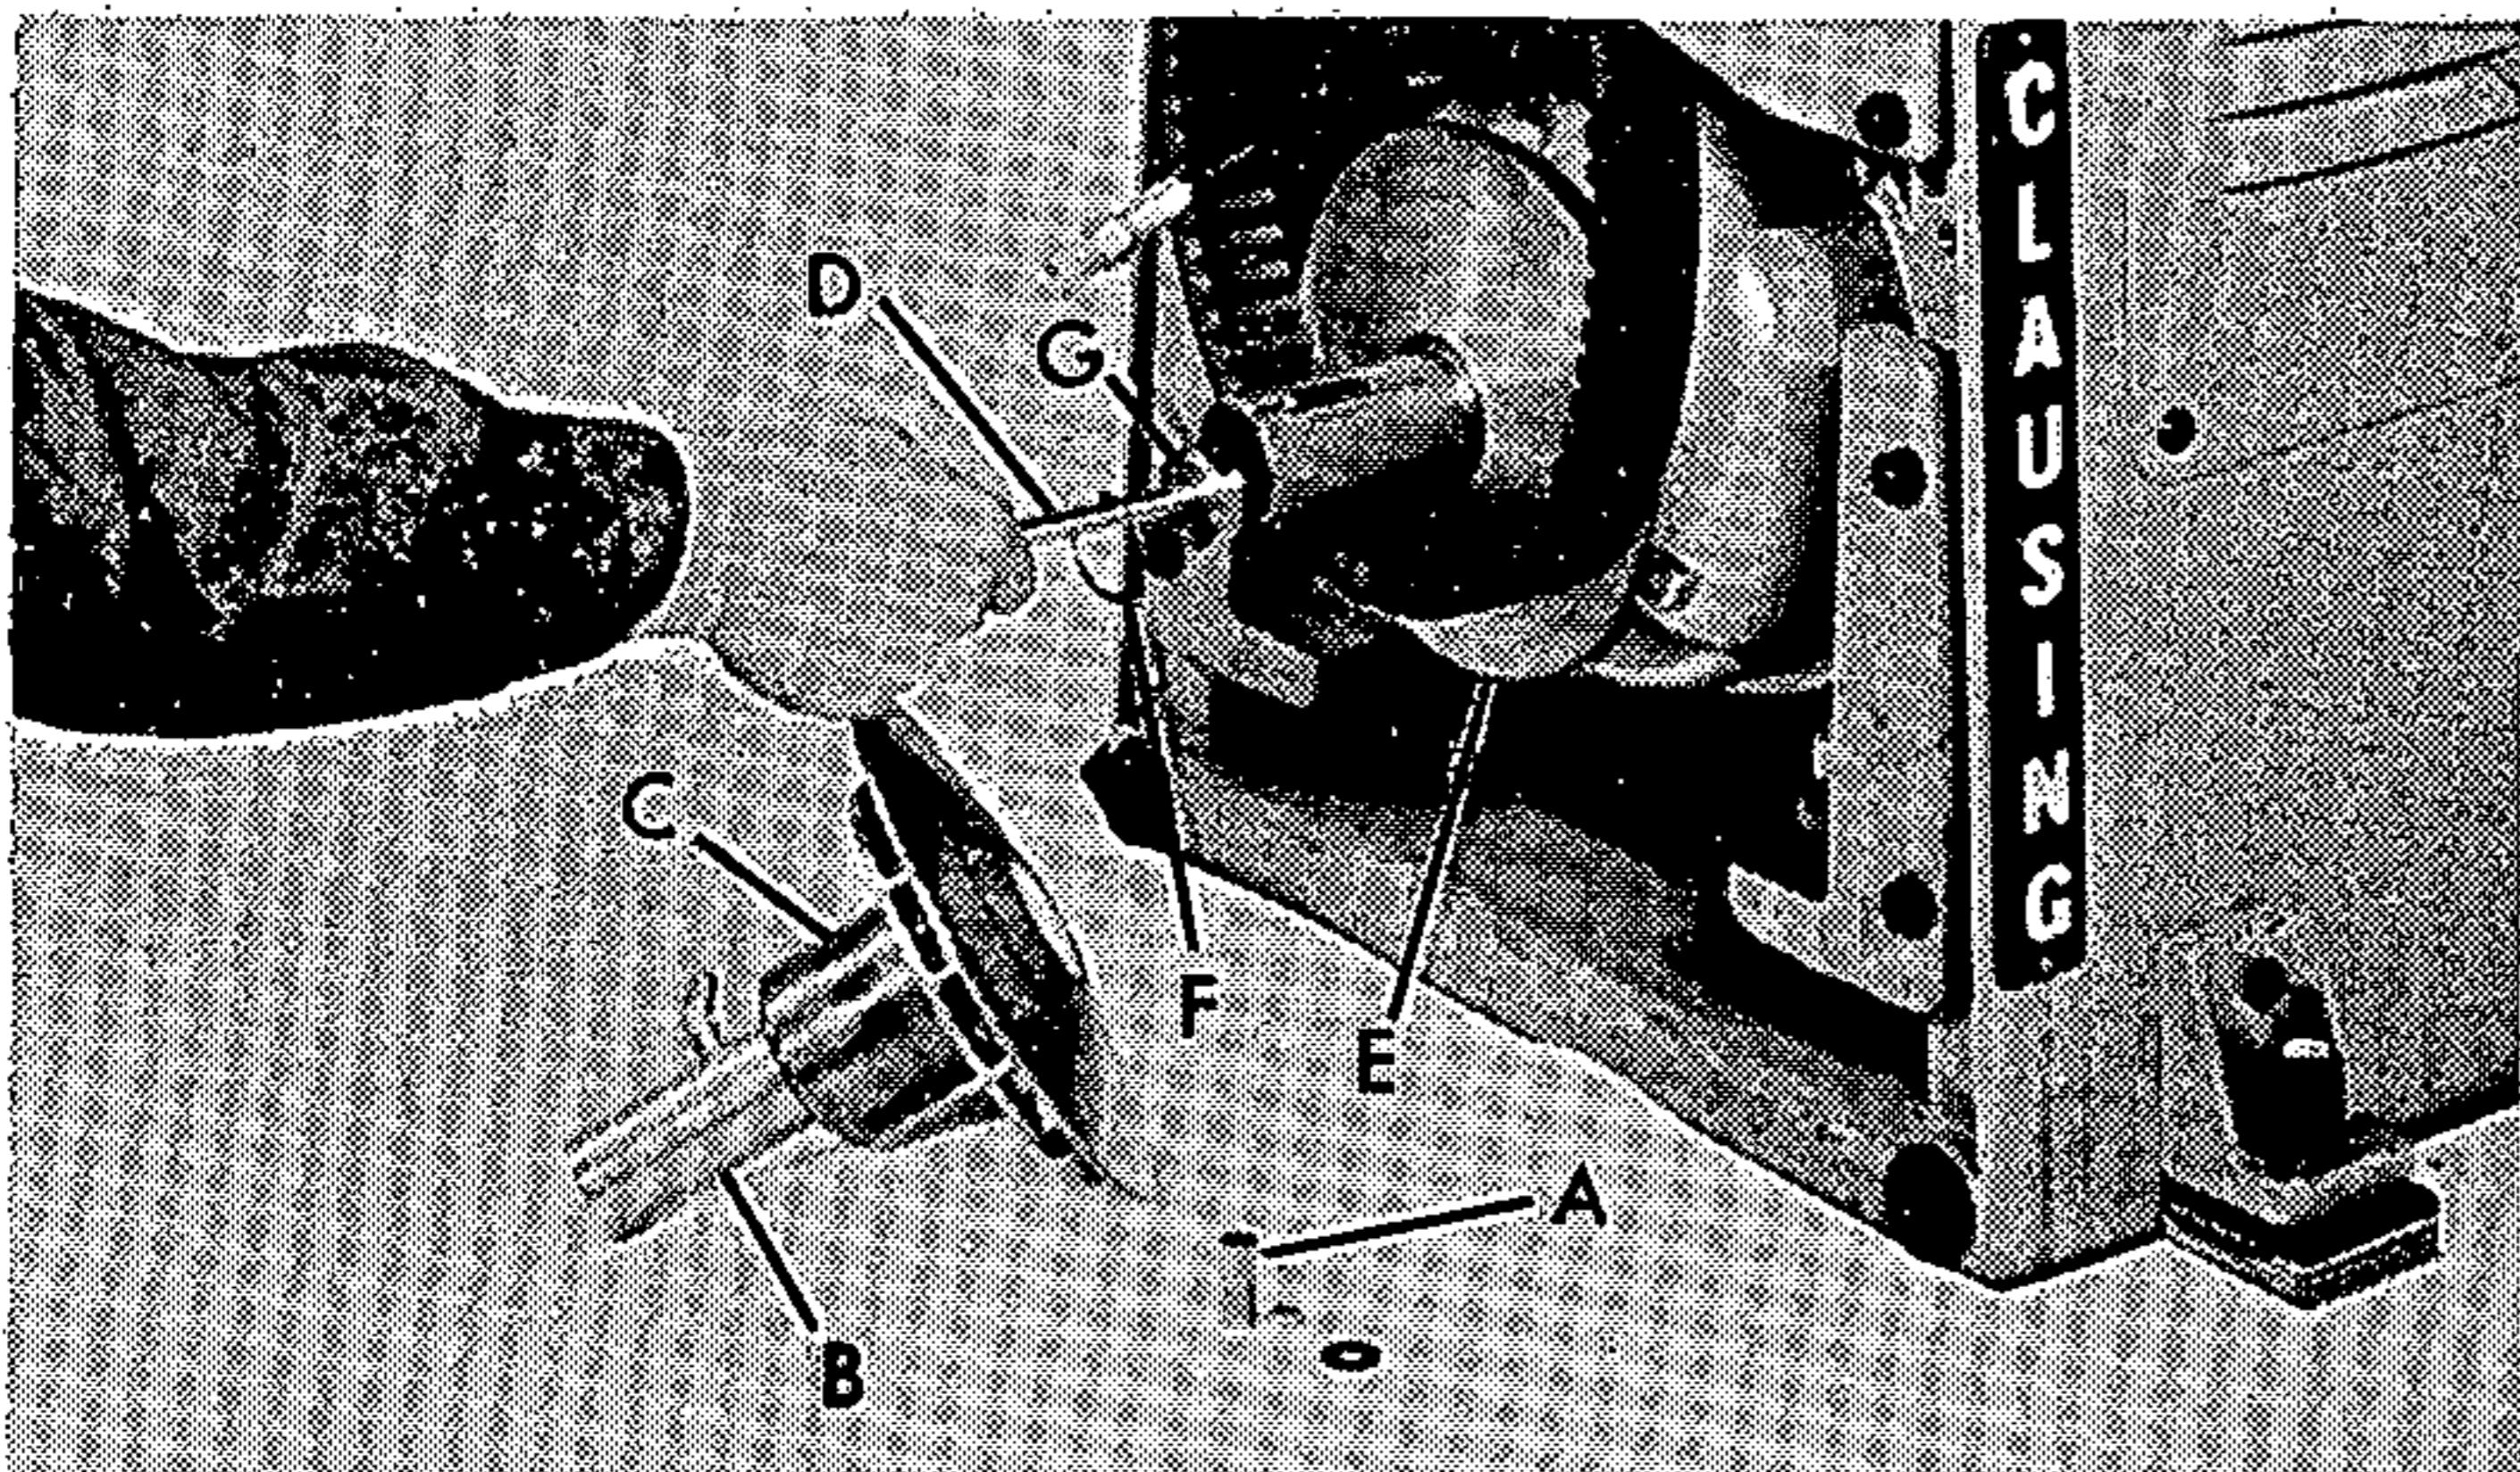
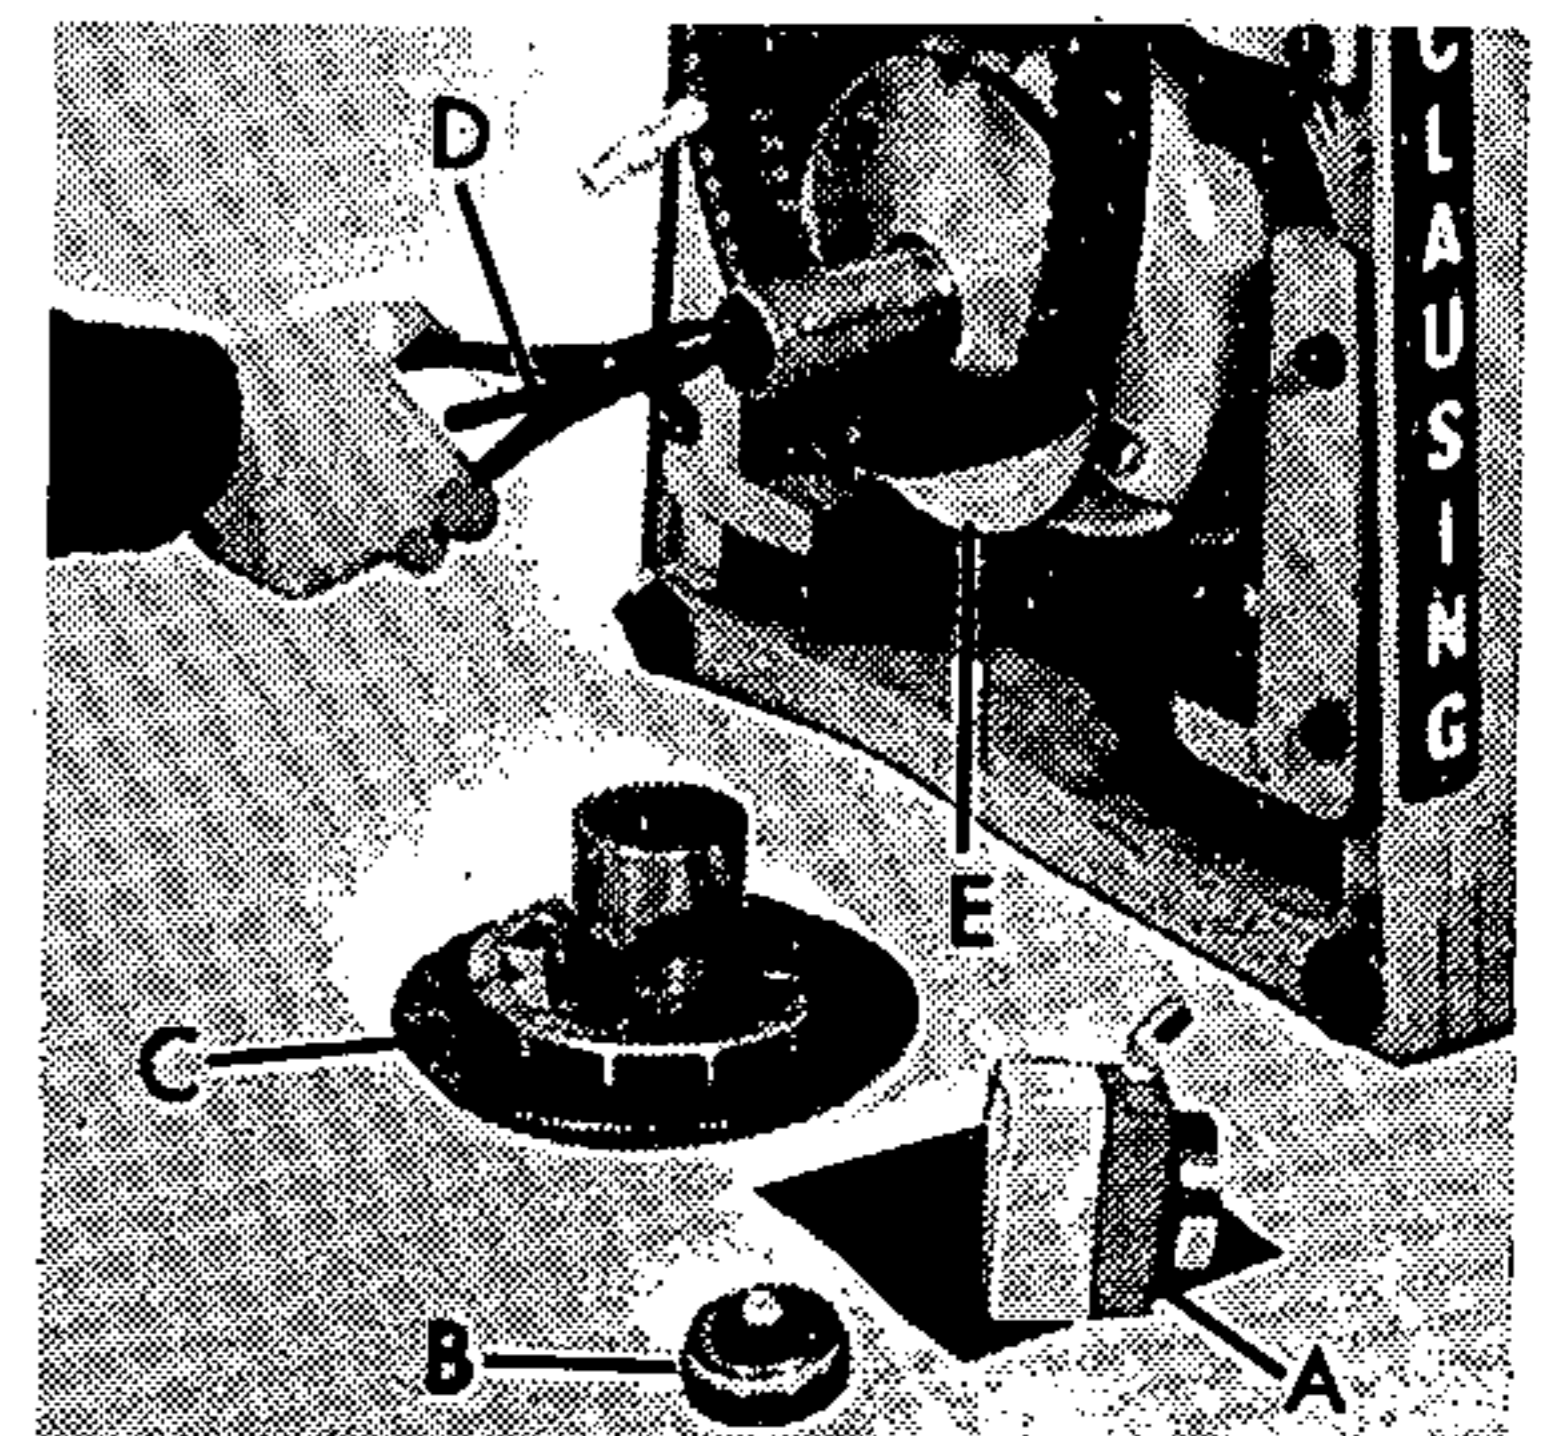

FIGURE 2
FIGURE 4
6. Remove sleeve (A, fig. 2) from hydraulic cylinder.
7. Pull hydraulic cylinder (B) with outer half of variable pulley (C) off shaft (D).
8. Press hydraulic cylinder (B) with bearing from outer half of variable pulley (C) being sure internal washer in pulley (snap ring on early models) remains in place.
CAUTION: Washer (snap ring on early models) must be in place in outer half of variable pulley (C, fig. 2) before installing bearing and housing assembly (A, fig. 4). An extra washer is supplied to aid in assembly if necessary.
9. With snap ring pliers, remove snap ring (F, fig. 2) from inner half of variable pulley.
10. Remove shaft (D) and bearing (G) from inner half of variable pulley (E).
2. Insert new shaft and collar assembly (D, fig. 4) into inner half of variable pulley (E) being sure pin in the collar lines up with key way in pulley (E), secure with retainer ring.